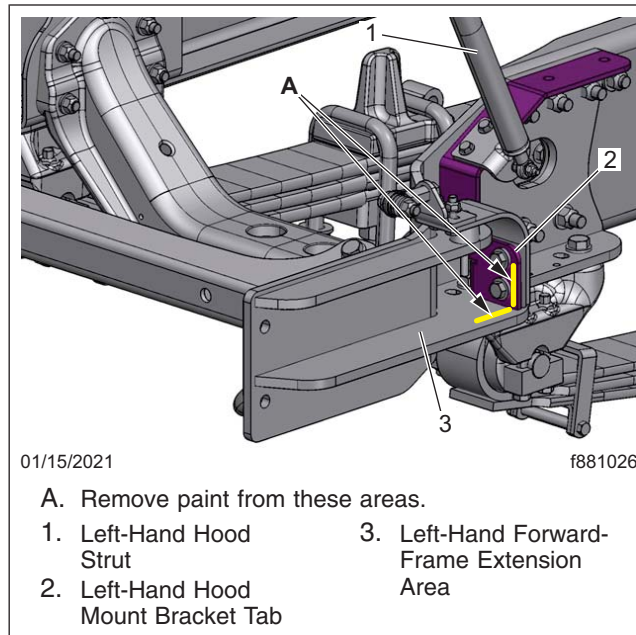

Fig. 2, Hood Support Bracket and Paint Removal Location
3. Locate the hood support brackets at the left-hand and right-hand forward frame extension fabrications. See Fig. 2. The area where the gussets will be installed is directly below the lower-hood strut mounting points. Both a right-hand and left-hand gusset need to be installed to complete the repair.
5. Gently grind or sand away the topcoat paint on the vertical surface of the left-hand mounting tab at the edge and on the left-hand horizontal surface of the frame at the edge until bare metal is visible. See Fig. 2. This is in preparation for welding the gusset into position.